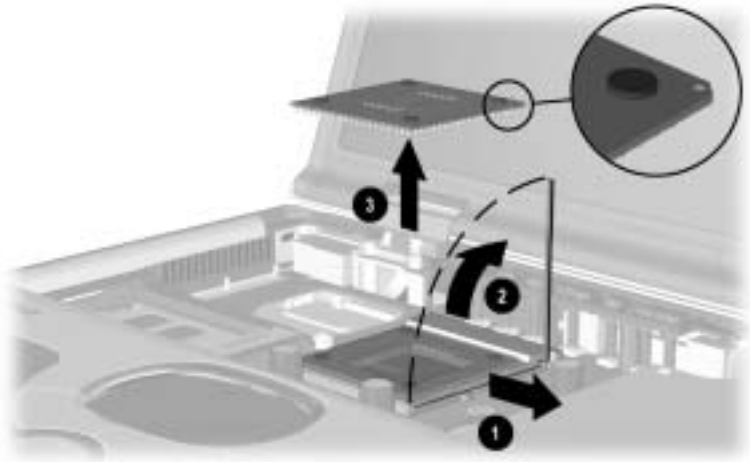

Figure 5-24. Removing the Processor
2. Slide the front end of the processor release bar ❶ to the right until it clears the clip on the processor bracket (Figure 5-24).
3. Swing the processor release bar up and back ❷ until it rests in an upright position.
4. Lift the processor straight up ❸ and remove it from the processor socket.